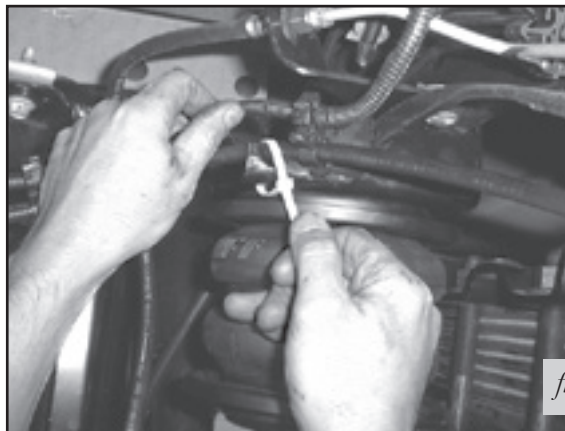

fig. 17
1. Set the emergency cable into the hook on the driver-side and install a cable tie to keep the cable from chaffing on the bellows (Fig. 17).